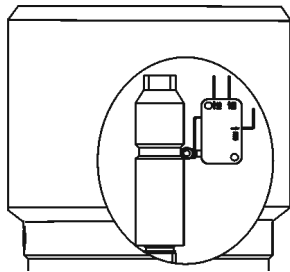

Figure 12: Micro Switch
(Figure 12, item shows the correct position of the Micro Switch when the valve is in Divert mode. This position allows the switch to give a signal when the valve opens and the roller moves out of the groove, and also gives an indication if the valve seat is worn excessively (the stem moves up and the roller is out of the groove).
5. Pull the lower stem (Figure 12, item 3) to remove the caged spring assembly from the actuator cylinder.